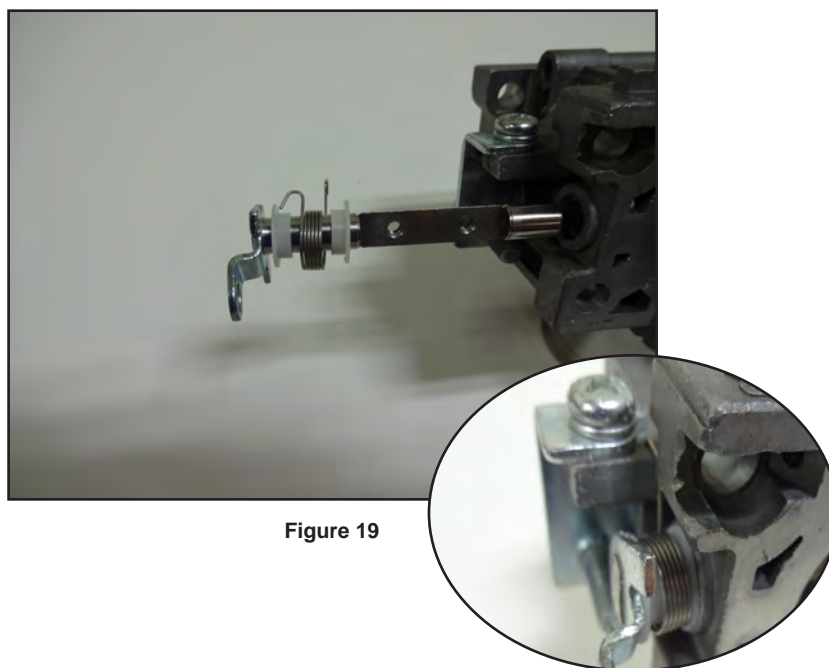

Figure 19
2. Unhook the throttle shaft spring while sliding the shaft out of the carburetor body (Figure 19).